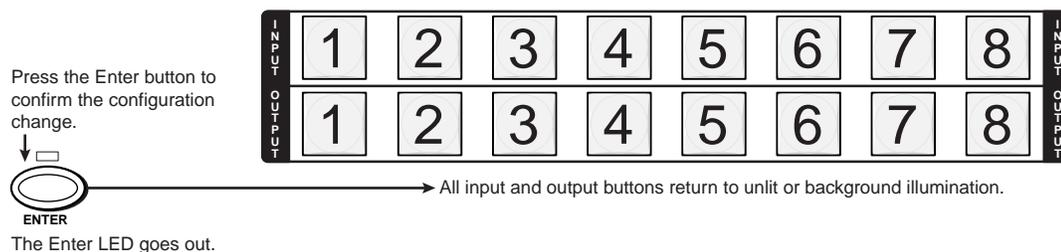

Figure 3-12 — Press the Enter button
5. Press and release the Enter button (figure 3-12).